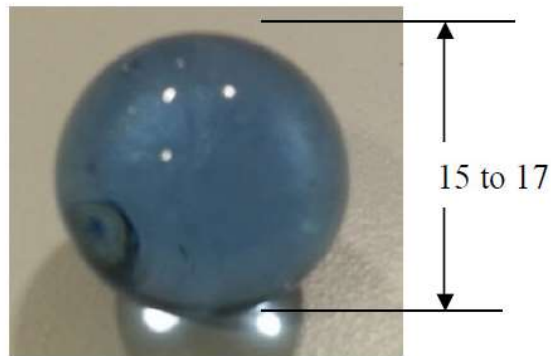

Figure 4 : Cargo Dimensions (in mm)
- 3.6. The cargo to be lifted will be marbles in the case of ROV as shown in Figure 4. The marbles are ceramic in nature and will have a diameter of around 15 – 17 mm weighing 3 to 7 g each..